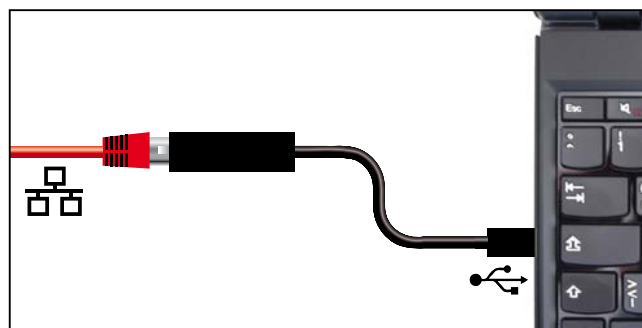

Fig. 8 Converter USB to Ethernet
- ▶ Converter USB to Ethernet (Fig. 8). Makes it possible to connect the appliance's network interface (see page 12) to the USB port of a computer / laptop.